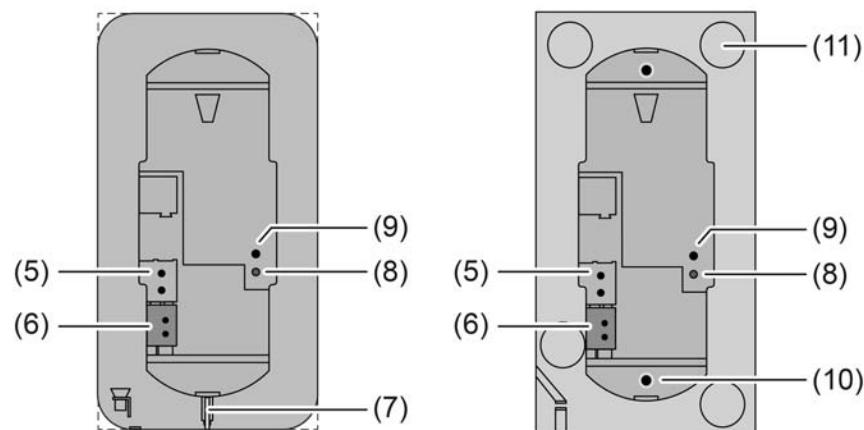

Figure 2: Device components, rear side
- Free the adhesion points for the adhesive dots on the rear side of the glass sensor (11) from impurities (Figure 2).